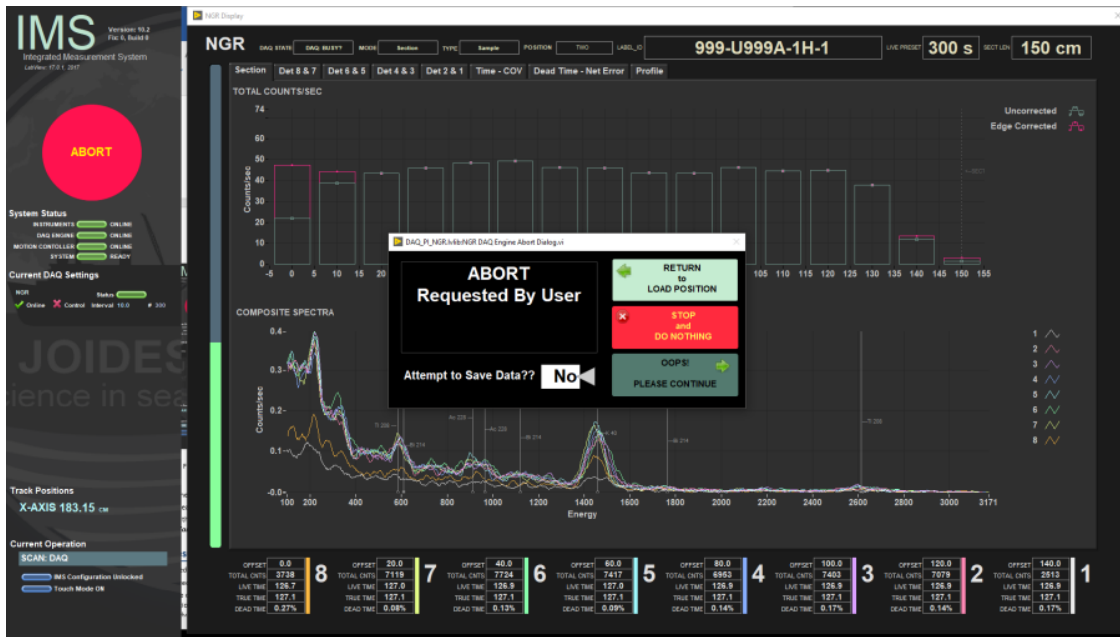

Figure 6: ABORT. User can choose between three options as seen.
9. If the measurement needs to be aborted press the **ABORT** (Fig. 6) button seen on the main display.